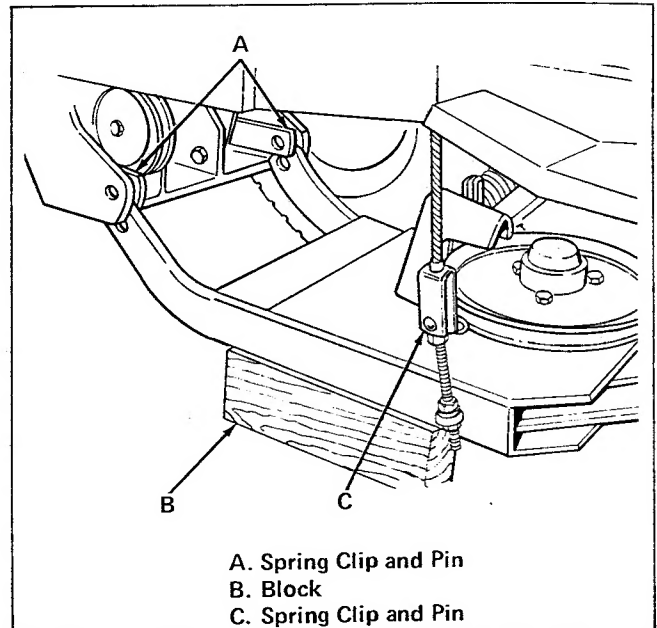

Figure 10. Hitch and Left Lift Cable
7. Raise tractor lift and remove block from under sickle bar. Lower the mower with hydraulic lift. Remove spring clips on hitch and remove pins (item A, figure 10).